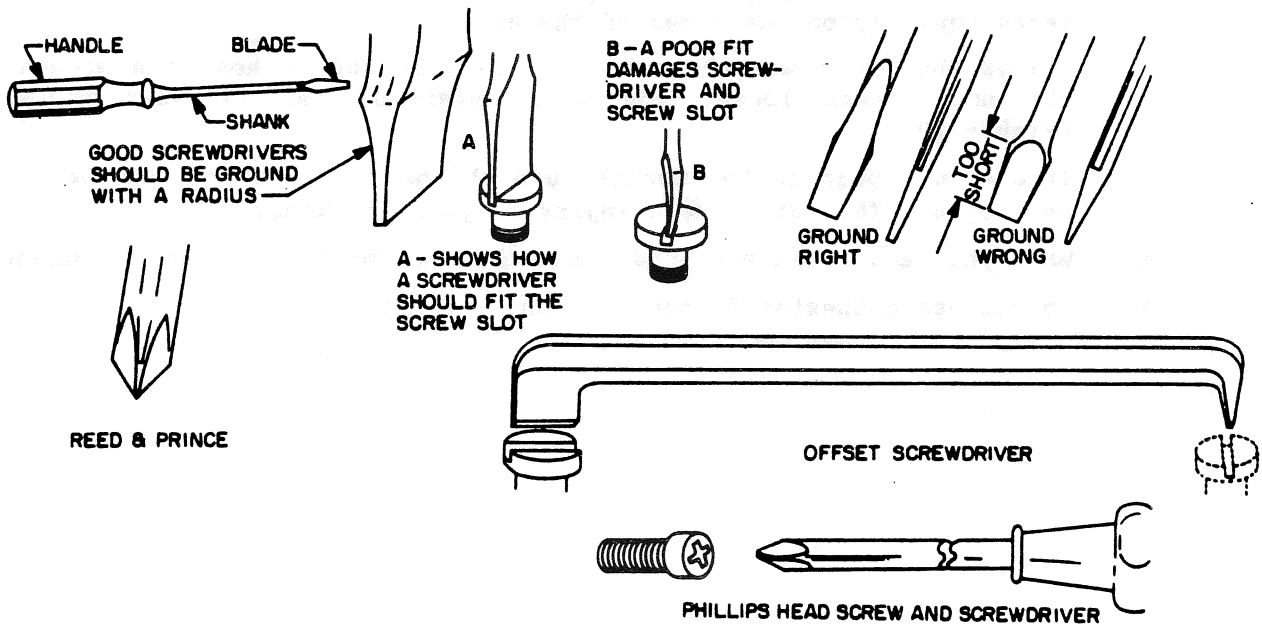

Figure 10.23. Screwdrivers
COMMON (General Purpose) (Figure 10.23)
3. Keep the faces parallel for a short distance or have them taper in a slight amount. Never grind the faces so they taper to a sharp edge at the tip. (See Figure 10.23)